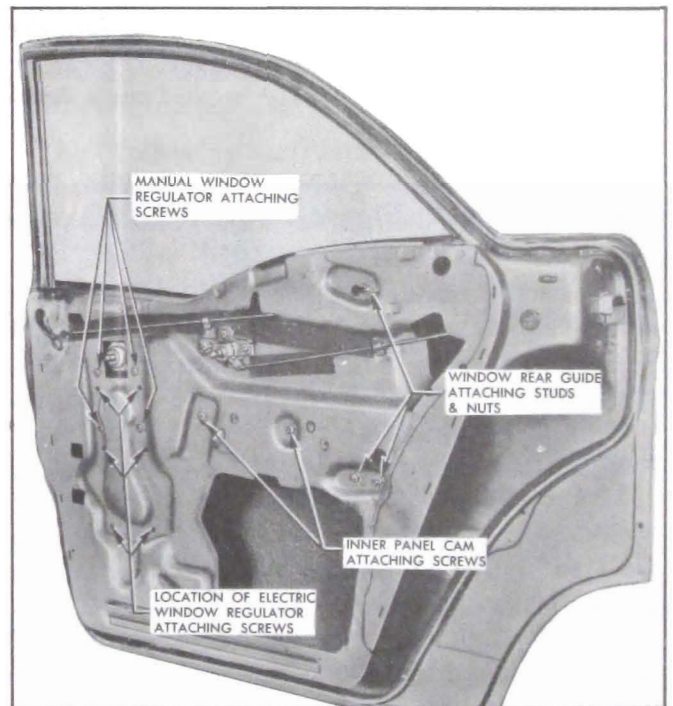

Figure 13-56—Rear Door Window Adjustments—Model 41
2. To adjust window assembly in or out for alignment with the glass run channels, loosen rear guide stud nuts and turn adjusting studs, Figure 13-56, in or out, as required. Tighten adjusting stud nuts.
3. To adjust front of window up or down for alignment with glass run channels, loosen inner panel cam rear attaching screw, Figure 13-56. Move rear of cam and front of window up or down, as required; then tighten cam attaching screws.
2. Remove window rear guide upper and lower attaching studs and nuts, Figure 13-56; then disengage guide from shoes on window lower sash channel and remove from door by pulling guide upward through cut-out in top of door inner panel.
4. Remove inner panel cam attaching screws, Figure 13-56, then detach cam from regulator arms and remove from door.
5. Remove window regulator attaching screws, Figure 13-56, and remove regulator assembly from door through large access hole.